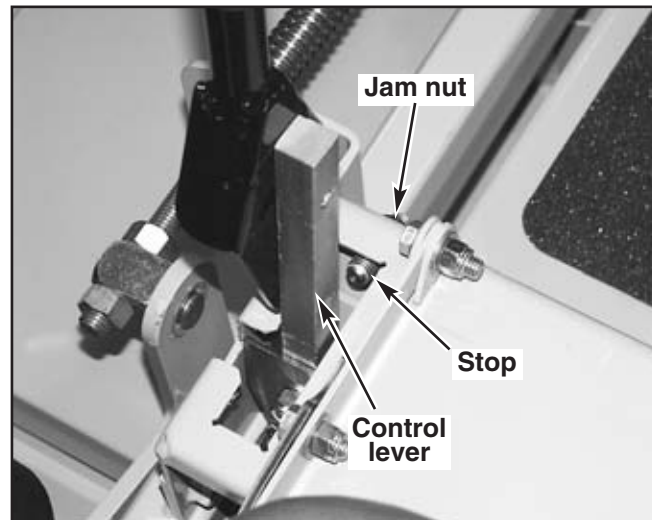

Figure 11-23
8. After adjusting for neutral it may be necessary to re-adjust the control lever stop. Fig. 11-23
The control lever stops (Fig. 11-23) are designed to do two things: First, and most important, they must keep the pumps from bottoming out